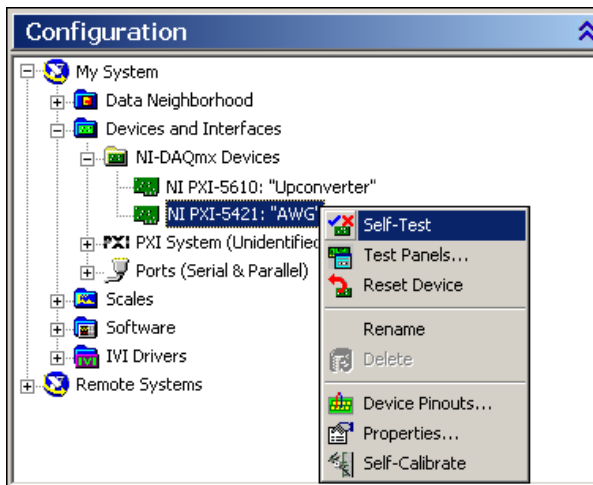

Figure 1-16. Select Self-Test from the NI PXI-5421 Right-Click Menu
13. Right-click **NI PXI-5421** and select **Self-Test**, as shown in Figure 1-16.